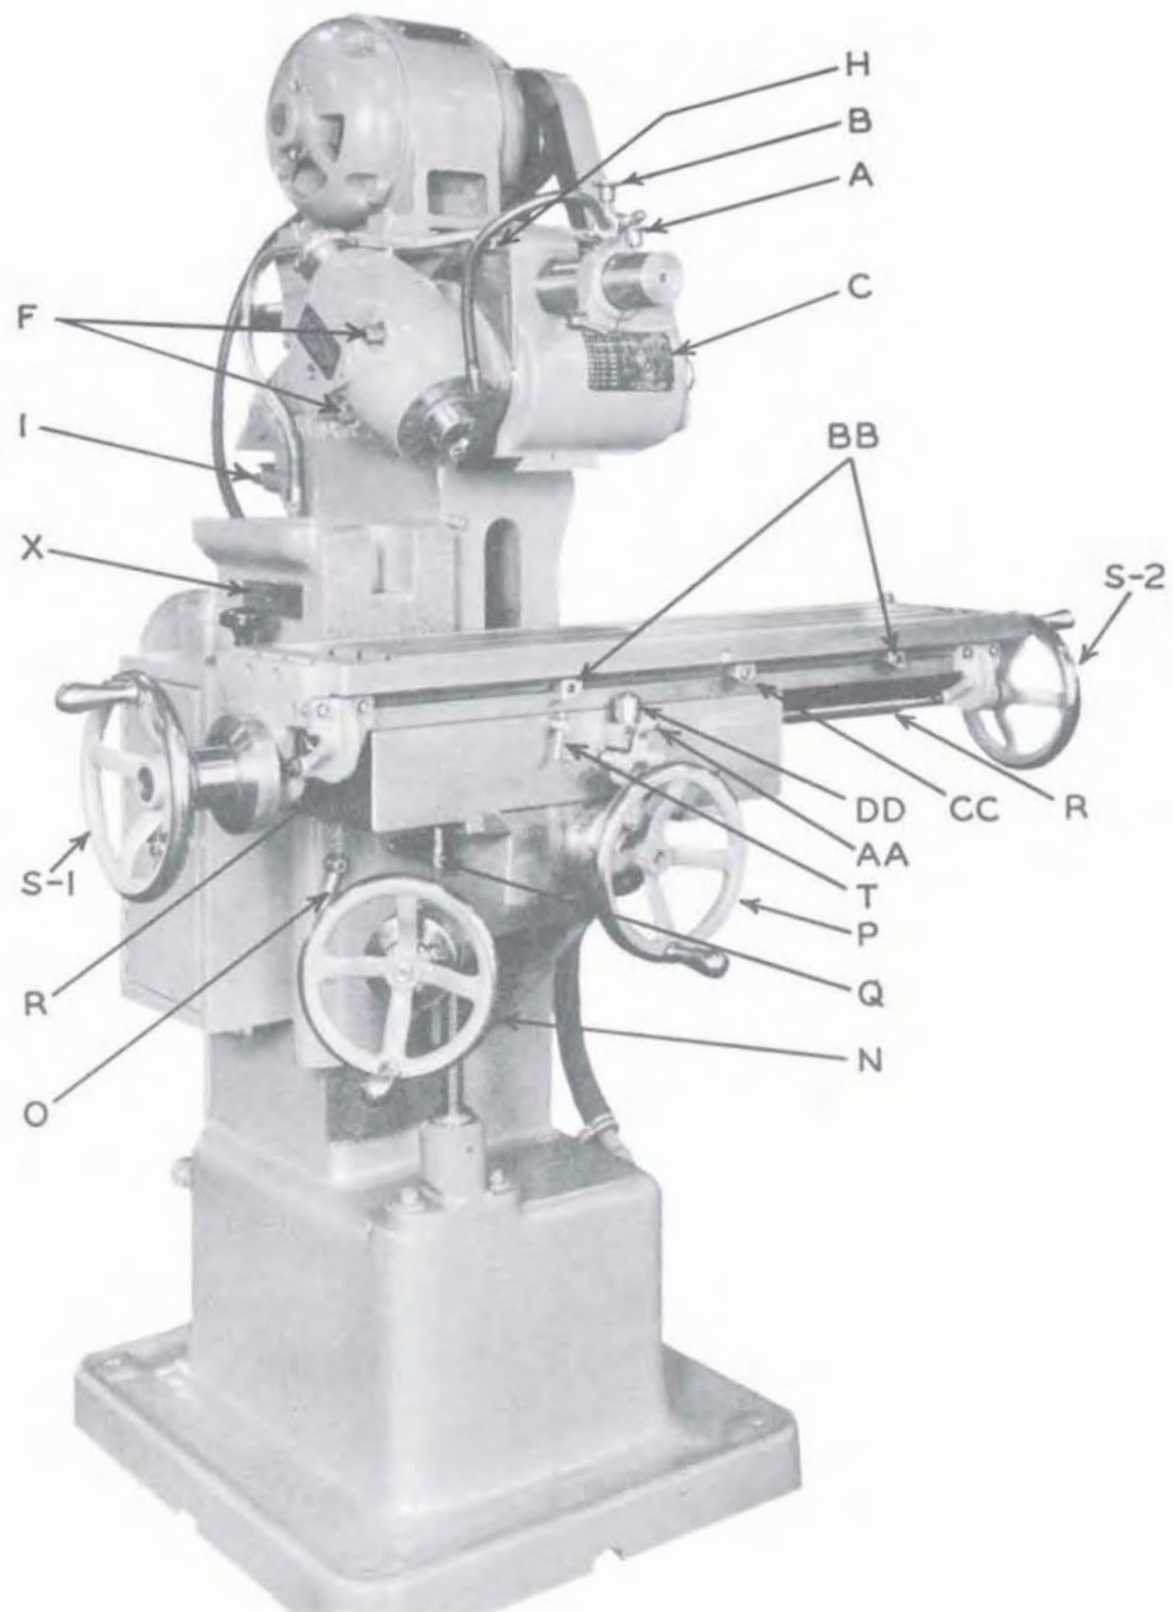
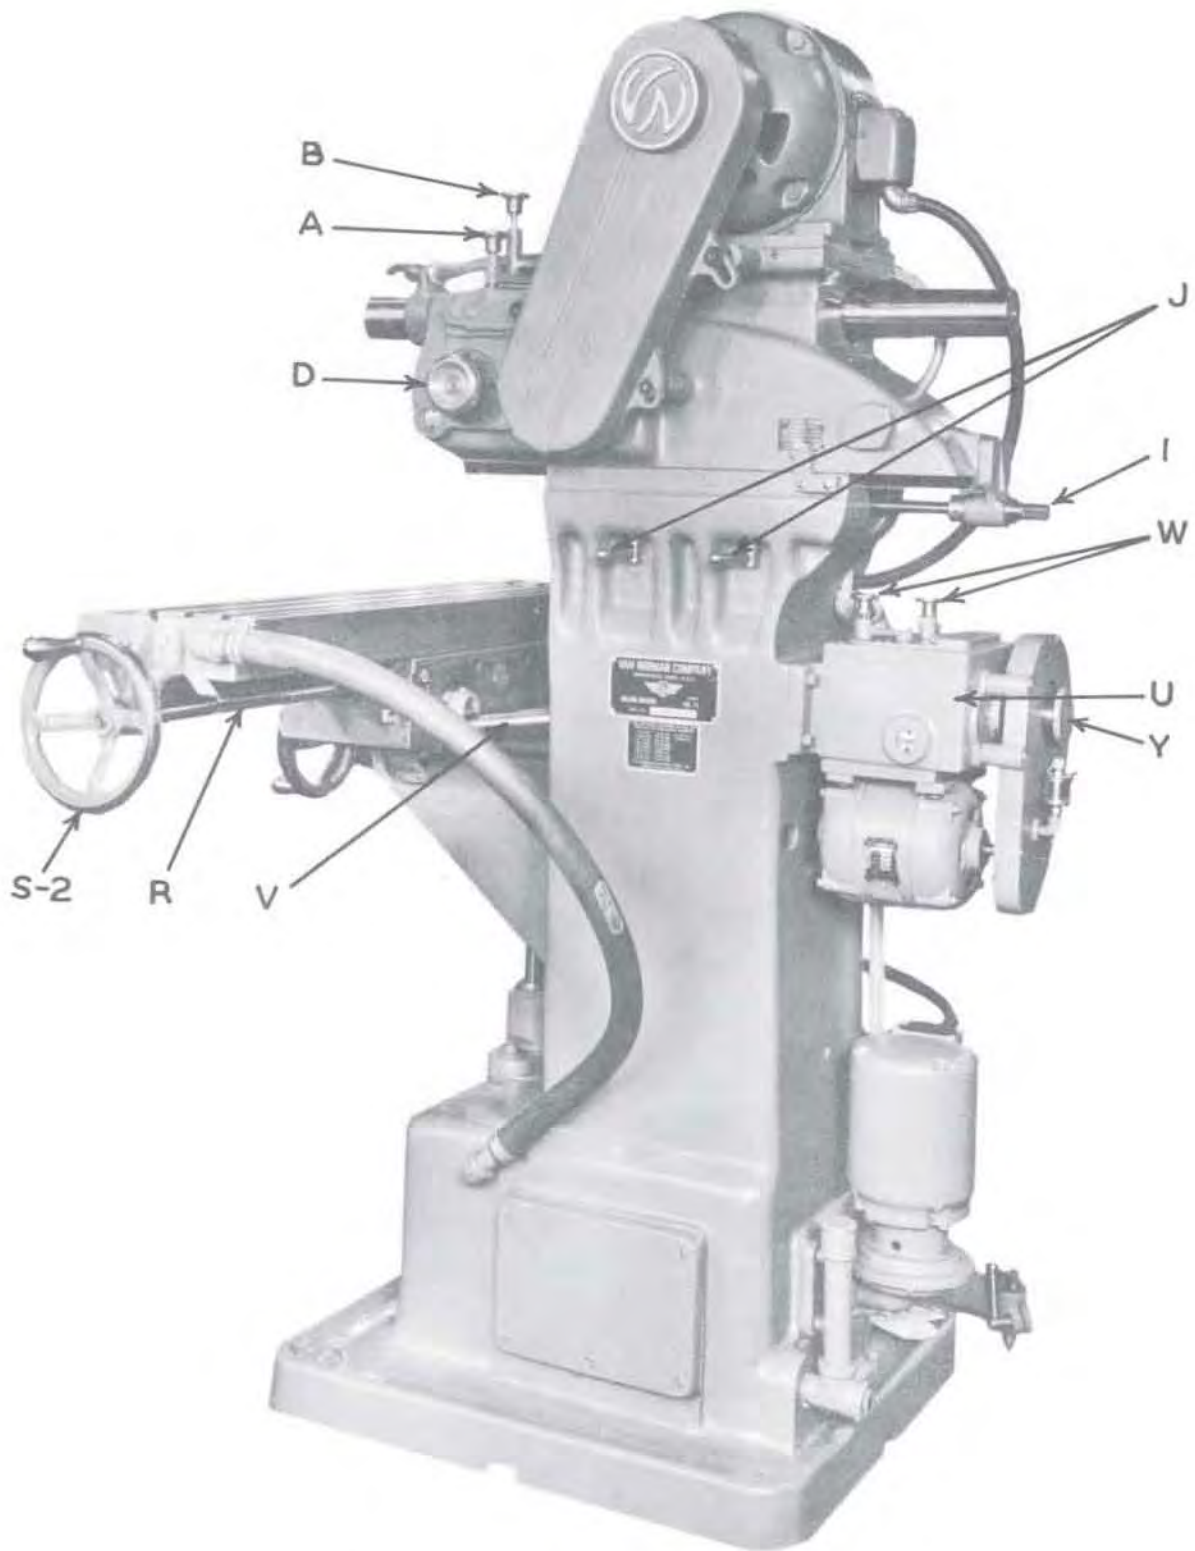
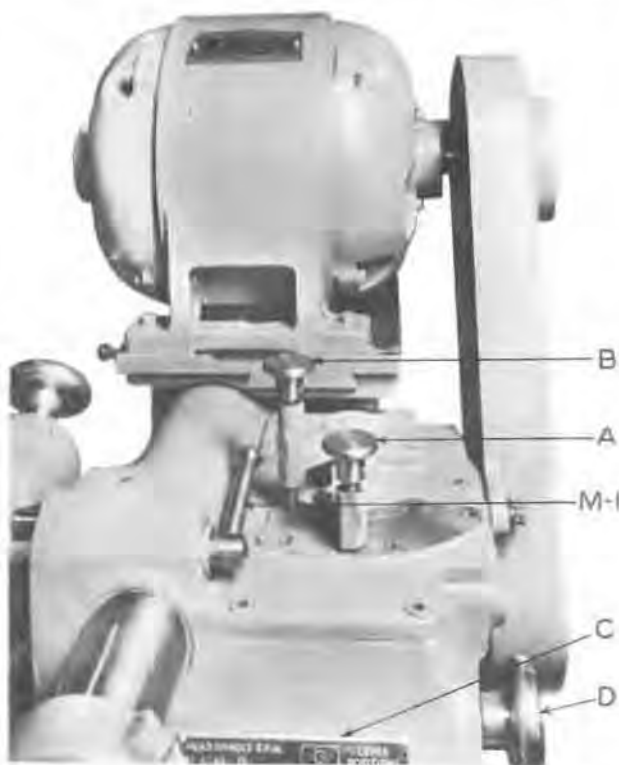

FIG. 1—*Left Front View*
FIG. 2—Right Quarter View
FIG. 5—View Showing Spindle Speed Levers
vent permanent misalignment in the machine. A sling of  $\frac{3}{4}$ " diameter rope about 12' in circumference or longer, should be placed around the ram, as shown in Figure 1, the hook being located about parallel to the ram shifter shafts, with ram 3" ahead of column and on the right side of the ram. Test the lift for balance before lifting to any height.
**CUTTERHEAD SPINDLE SPEEDS:** Various cutter spindle speeds are obtained by positioning levers "A" and "B" (See Fig. 5) on top of ram, in accordance with the table on the etched plate "C" (Fig. 2) on ram. Being sure cutter-spindle is stationary, lift the handle on lever, disengaging the spring tensioned pin from the stop hole beneath, and move until the desired hole is engaged. If the gears do not readily mesh, slightly rotate hand wheel "D" (Fig. 5), and set lever "A" first, then "B", thus engaging the teeth on the gears which may have had their edges on "dead center." To reverse cutter direction, throw reversing switch on starter case.
**RAM ADJUSTMENT** (See Fig. 2): The Ram is adjusted forward and backwards on its ways by ram feed screw "I" which extends out from under rear of ram. A removable crank handle is provided with the machine to fit the end of this screw. In order to move ram, it is necessary to loosen binders "J" on right side of column just under the ram ways, and to tighten them after desired position is set.
**OVERARM ADJUSTMENT:** When heavy horizontal milling is to be done, it is desirable to steady the arbor with the overarm and arbor support. Binders "M-1" (Fig. 5) and "M-2" (Fig. 1) should be loosened, and overarm slid into position, and then binders tightened. Lubricate the center on the arbor support when in use.
**KNEE OPERATION** (See Fig. 1): The knee is raised and lowered manually by handwheel "N" which operates the vertical screw through a bevel gear. A graduated dial is mounted on the shaft behind the handwheel, marked off in thousandths of an inch. To set the dial, loosen the thumb screw on its hub, rotate it to the desired reading, and tighten the thumbscrew.
**CROSSFEED OPERATION** (See Fig. 1): Crossfeed or cross adjustment of the saddle is obtained by the saddle crossfeed screw and handwheel "P". A graduated dial is provided. Crossfeed binder "Q" is located under saddle on left side, and operates by tightening the saddle gib. Binder should be loose when adjusting the crossfeed to prevent unnecessary strain on the crossfeed screw and nut mechanism.
**TABLE FEED** (See Figs. 1 and 7): Table feed is provided by table feed screw "R", which may be turned by either handwheel "S-1" or "S-2", or by the power feed. A dial graduated in thousandths
Power feed is obtained from the  $\frac{1}{4}$  HP motor mounted on back of column. This motor drives feed gearbox "U" (Fig. 7) through a silent chain drive; the gearbox is coupled to the saddle and table through telescoping shaft and universal joint assembly "V" (Fig. 2).
Lever "AA" (Fig. 1) on front of saddle throws in the power feed on the table. Moving it to the right should cause the table to travel to the right, and the left to the left. If the reverse is true, interchange two of the power feed wire connections to correct the direction of rotation of feed motor. When lever "AA" is in a vertical position, the power feed is disconnected by a clutch located in the saddle, and adjustments of table may be made by hand even though feed motor is running.
**TABLE STOPS** (See Fig. 1): Stops "BB" are fixed in position at the factory and should not be touched. They are safety stops provided to prevent the table running out too far and damaging the feed mechanism. Stop "CC" is adjustable, and is used to limit the length of table feed travel. All stops operate by depressing plunger "DD" which in turn forces lever "AA" to the vertical, or neutral position, stopping further table travel.